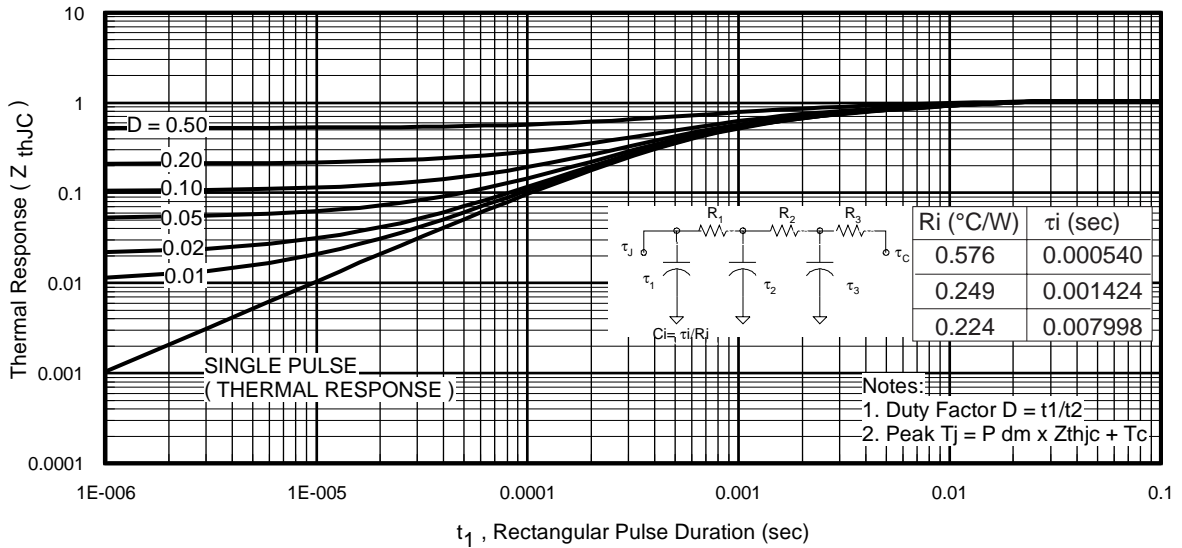
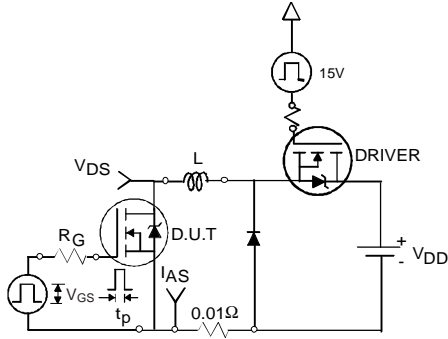

Fig 11. Maximum Effective Transient Thermal Impedance, Junction-to-Case
Fig 12a. Unclamped Inductive Test Circuit
3. Equation below based on circuit and waveforms shown in Figures 12a, 12b.
$Z_{thJC}(D, t_{av})$ = Transient thermal resistance, see figure 11)
- ① Repetitive rating; pulse width limited by max. junction temperature. (See fig. 11).
- ② Limited by T_{Jmax} , starting $T_J = 25^\circ\text{C}$, $L = 0.28\text{mH}$, $R_G = 25\Omega$, $I_{AS} = 33\text{A}$, $V_{GS} = 10\text{V}$. Part not recommended for use above this value.
- ③ Pulse width $\leq 1.0\text{ms}$; duty cycle $\leq 2\%$.
- ④ C_{OSS} eff. is a fixed capacitance that gives the same charging time as C_{OSS} while V_{DS} is rising from 0 to 80% V_{DSS} .
- ⑤ Limited by T_{Jmax} , see Fig.12a, 12b, 15, 16 for typical repetitive avalanche performance.
- ⑥ This value determined from sample failure population. 100% tested to this value in production.
- ⑦ When mounted on 1" square PCB (FR-4 or G-10 Material). For recommended footprint and soldering techniques refer to application note #AN-994.